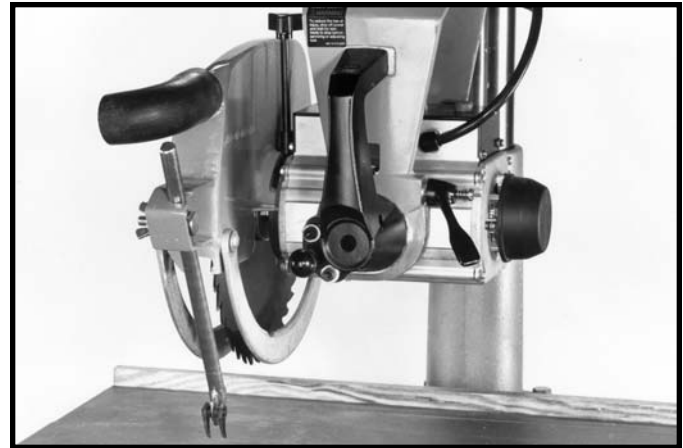

Fig. 32
7. Fig. 32, illustrates the blade guard assembly attached to the motor assembly.